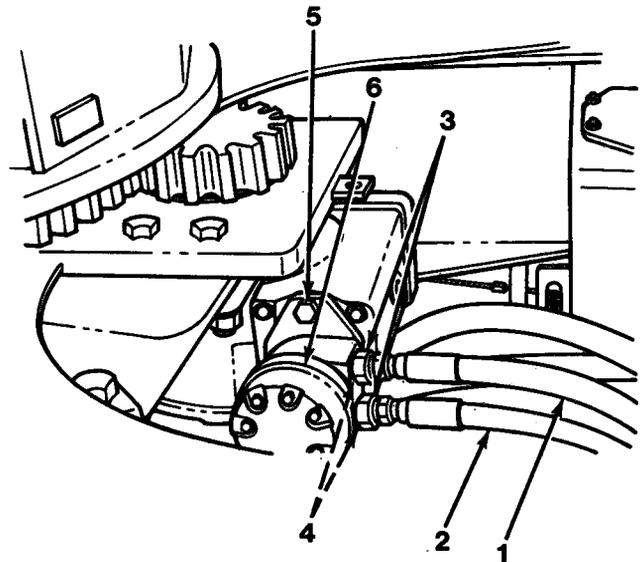

Figure 13-1
2. Disconnect hydraulic hoses (1) and (2) and remove two adapters (3) and two O-rings (4, Figure 13-1).
3. Remove two capscrews (5).
4. Remove swing motor (6) from case.
2. Install swing motor (6, Figure 13-1) to case.
3. Apply Loctite 271 to threads of two capscrew (5) and install two capscrews (5).
4. Install two O-rings (4) and adapters (3) and connect hydraulic hoses (1) and (2) to adapters (3).